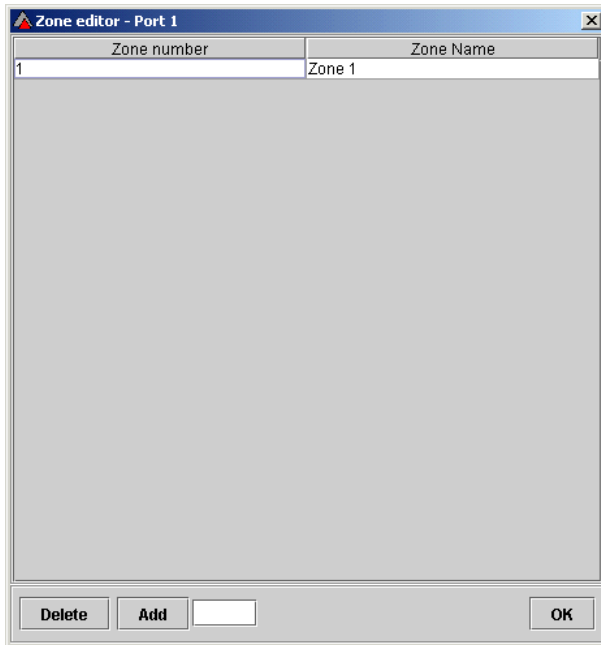

Figure 9 : Zone editor dialog
- [1] From the Config menu, select Zones. The Zone editor – Port 1 dialog shown in Figure 9 will be displayed.